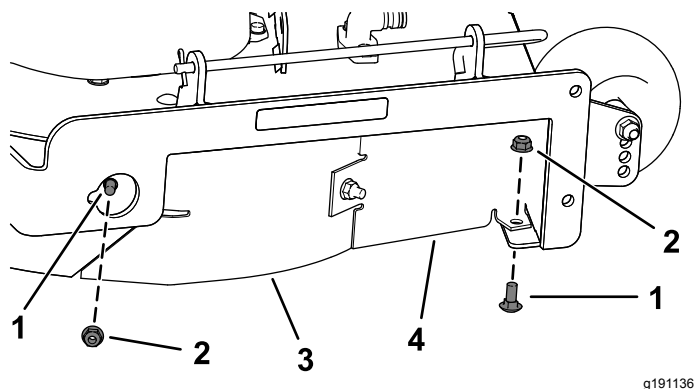

Figure 32
7. Remove the 2 carriage bolts (5/16 x 3/4 inch) and 2 locknuts (5/16 inch) securing the assembled right baffle and baffle guard to the mower deck (Figure 32).